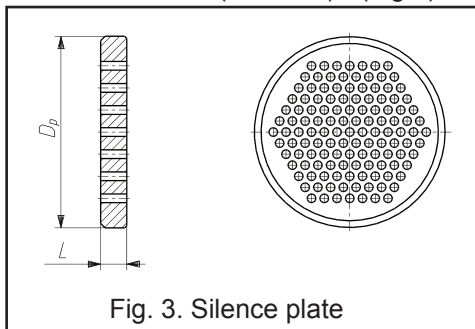

Fig. 3. Silencer plate
- silencer plates on valve outlet and/or inside of reduction joint (Fig. 3, 4 and Table 14)